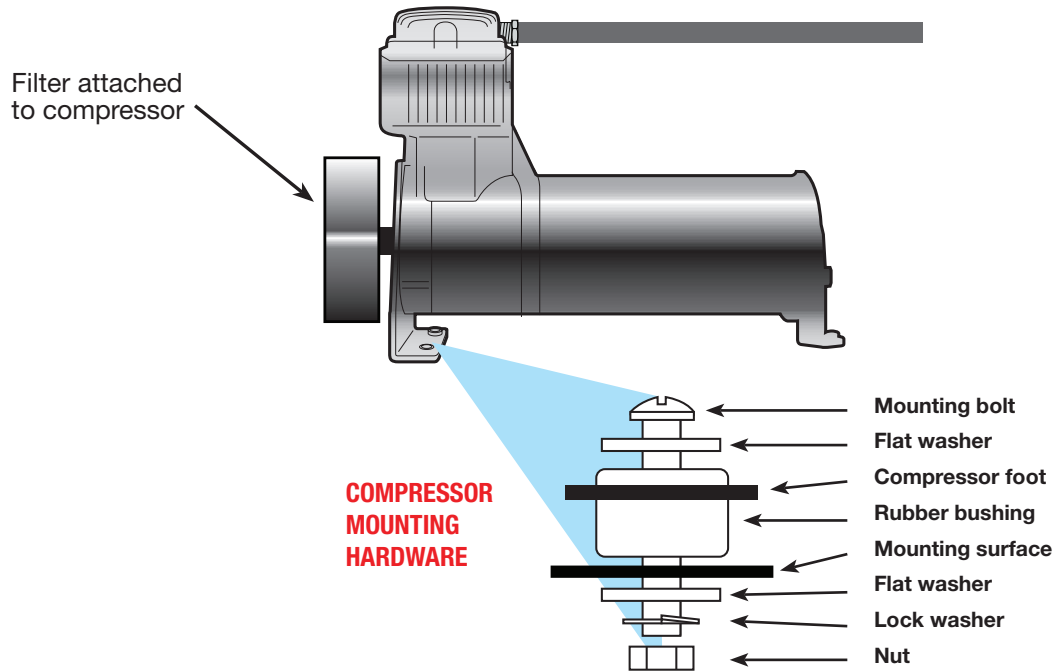
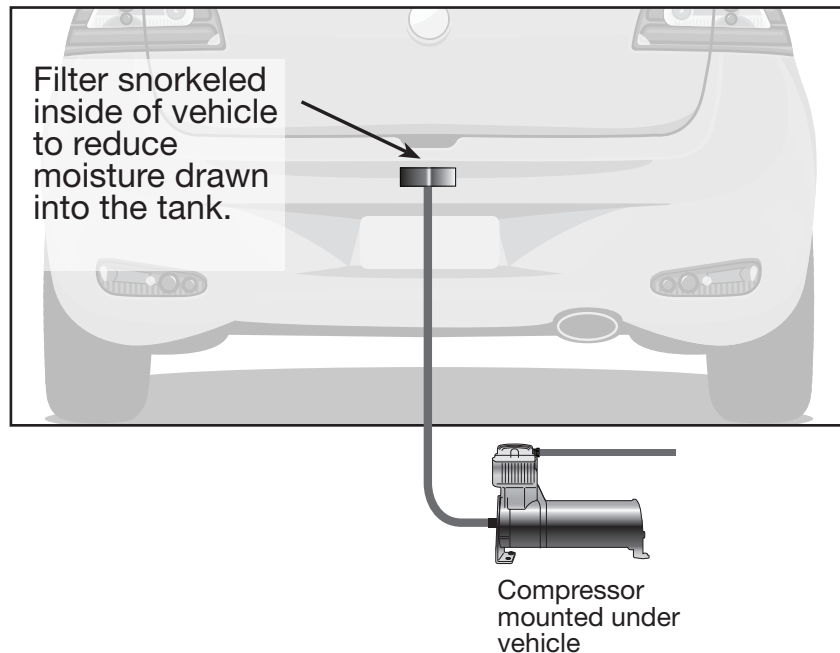

fig. 14
fig. 15
1. Prepare the compressor intake. If it is mounted inside the vehicle, attach the filter to port on end of compressor (fig. 14). If the compressor is located outside the vehicle, snorkel the inlet filter to dry location inside vehicle using components supplied with compressor (fig. 15).